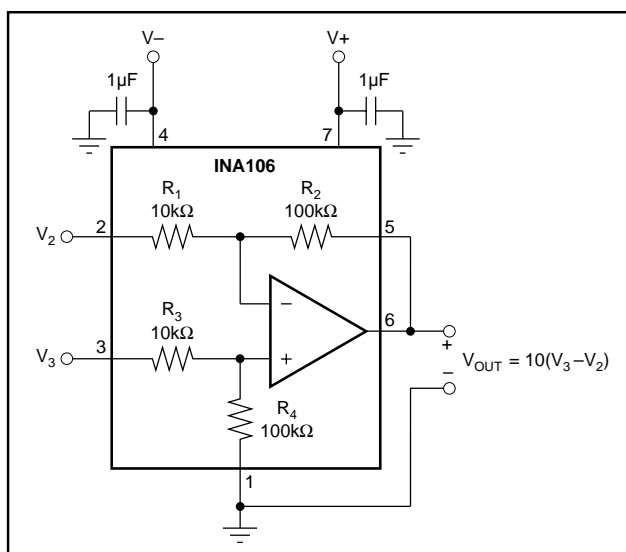

FIGURE 1. Basic Power Supply and Signal Connections.
NOTES: (1) Connected as difference amplifier (see Figure 1). (2) Nonlinearity is the maximum peak deviation from the best-fit straight line as a percent of full-scale peak-to-peak output. (3) With zero source impedance (see "Maintaining CMR" section). (4) Includes effects of amplifiers's input bias and offset currents. (5) Includes effect of amplifier's input current noise and thermal noise contribution of resistor network.
Figure 1 shows the basic connections required for operation of the INA106. Power supply bypass capacitors should be connected close to the device pins as shown.
Referring to Figure 1, the CMR depends upon the match of the internal  $R_4/R_3$  ratio to the  $R_1/R_2$  ratio. A CMR of 106dB requires resistor matching of 0.005%. To maintain high CMR over temperature, the resistor TCR tracking must be better than 2ppm/°C. These accuracies are difficult and expensive to reliably achieve with discrete components.